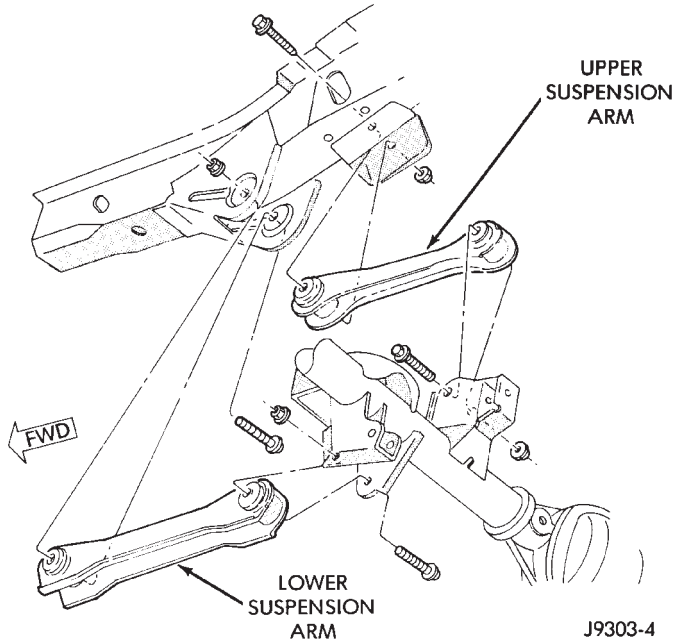

Fig. 3 Upper & Lower Suspension Arms
- (1) Raise and support the vehicle.
- (2) Remove the lower suspension arm nut and bolt at the axle bracket (Fig. 3).
- (3) Remove the nut and bolt (Fig. 3) at the frame rail and remove the lower suspension arm.
- (2) Remove the upper suspension arm nut and bolt at the axle bracket (Fig. 3). Remove the ABS wire bracket from the arm.
- (3) Remove the nut and bolt at the frame rail and remove the upper suspension arm.